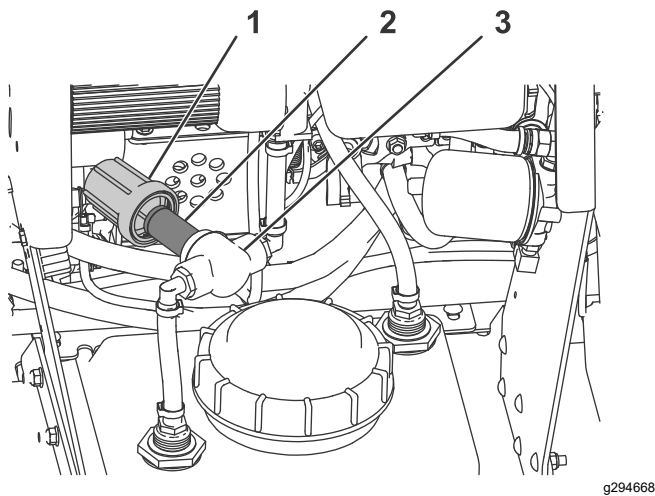

Figure 54
1. Clean the area around the in-line filter cap (Figure 54).